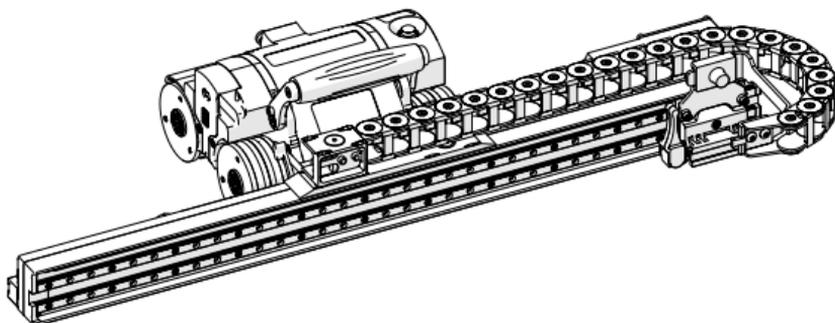

Fig. 40 - Properly mounted Motorized Raster Arm
2. Tighten the two black wing knobs to secure the raster arm (Fig. 40).